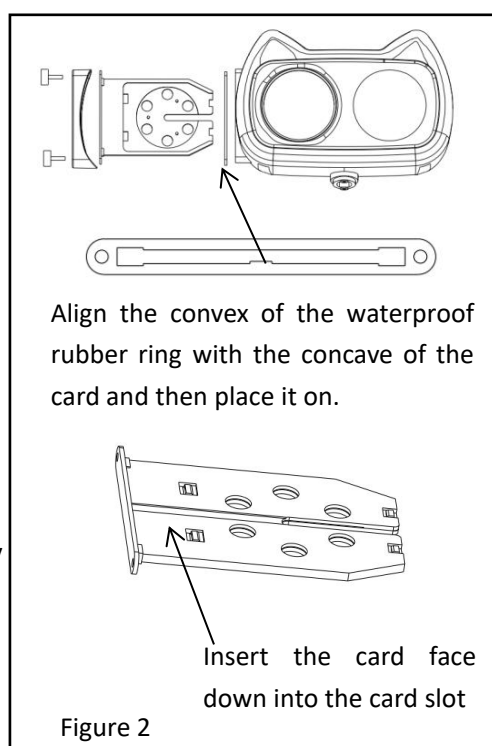

Figure 2
1. Unscrew the two screws on the card cover fixed in the projector lamp housing and remove the card cover(see Figure 2). A card has been placed in the card cover frame for installing different cards. To install another card, remove the card placed in the card frame. Also be careful to avoid touching the card image. The card is easy to remove.
2. Reinsert the card into the projection lamp body, taking care to use the arrow on the card in front of the projection lamp to correctly insert the card (see Figure 2) and tighten the screws. Note: If you turn on the projection lamp and find the image moving backwards, you may have installed the card backwards. If this is the case, remove the card, rotate it and reinstall it.